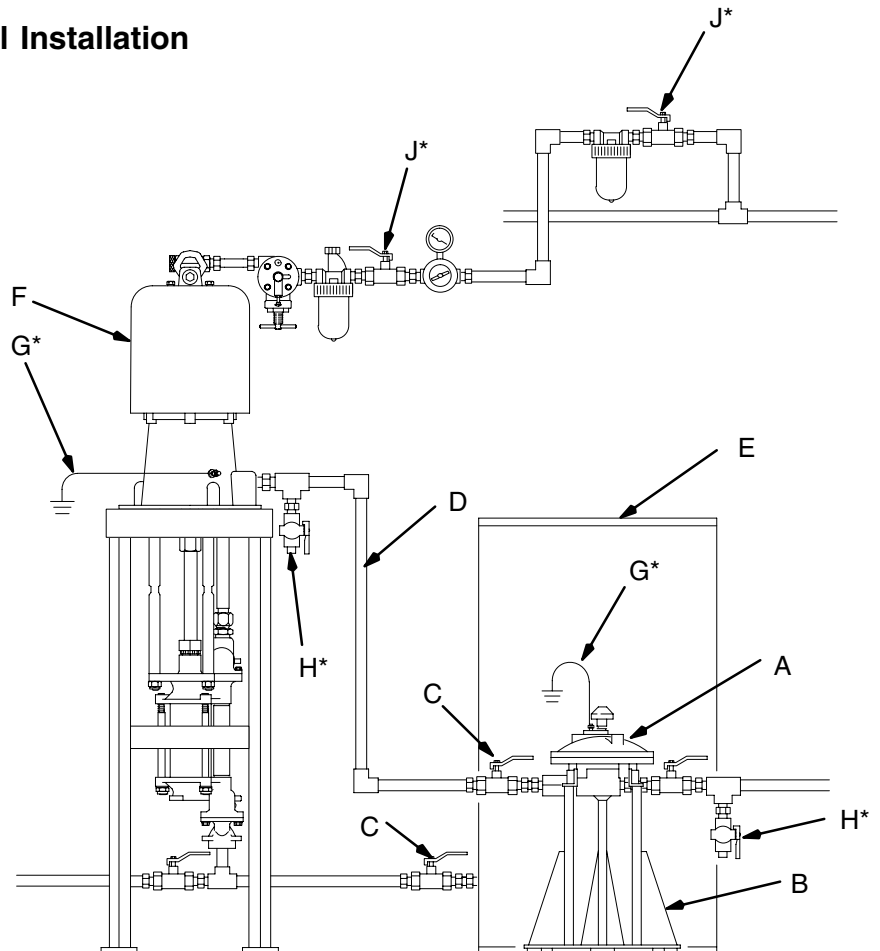

Fig. 3
(See Fig. 3.)
Install a fluid shutoff valve (C) before and after the surge tank to isolate it when servicing the tank. See Fig. 3.